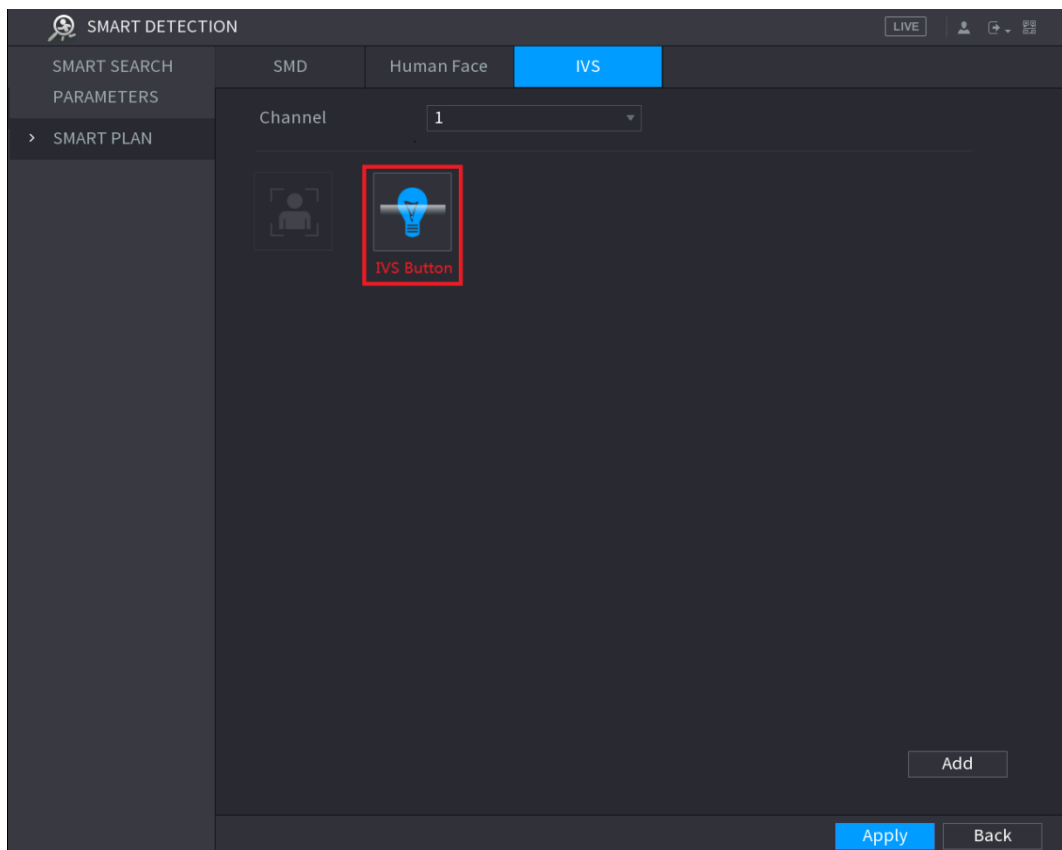

Figure 5-165
- For the IP camera without preset, see Figure 5-165.